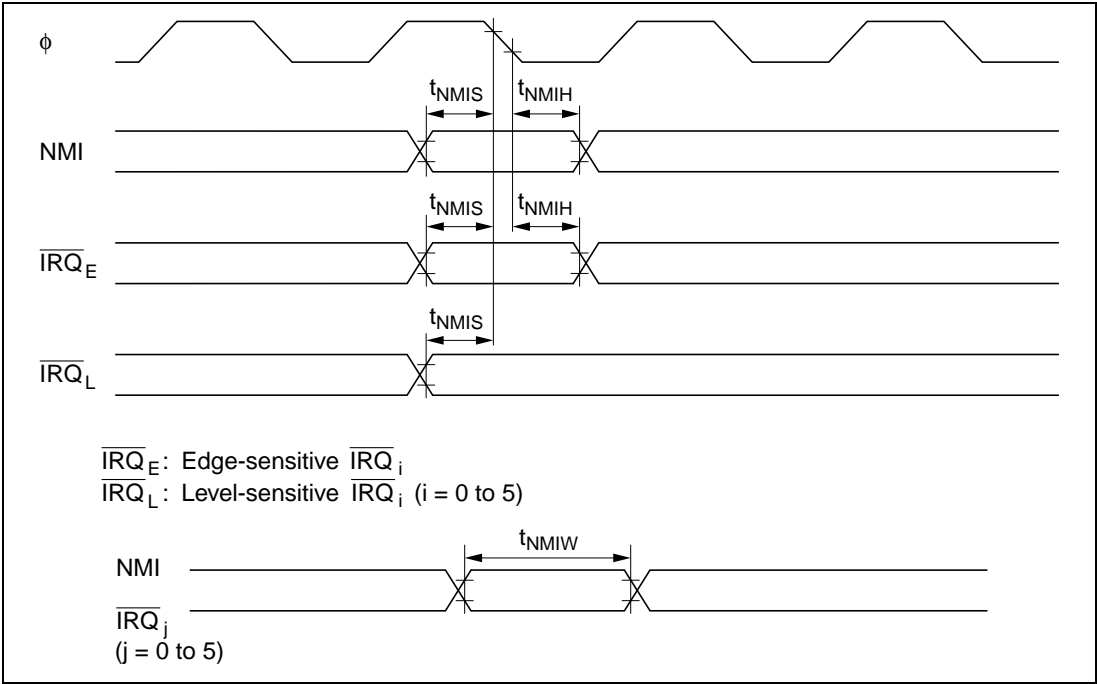

Figure 21.12 Interrupt Input Timing
- Figure 21.12 shows the interrupt input timing for NMI and $\overline{\text{IRQ}}_5$ to $\overline{\text{IRQ}}_0$.